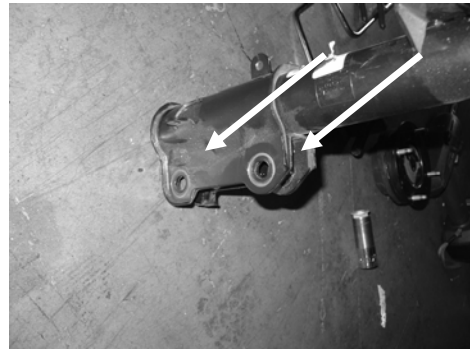

Figure 1
1. Remove the two lower strut bolts using a 3/8" impact gun with a 18mm deep socket. (Figures 1 and 2)